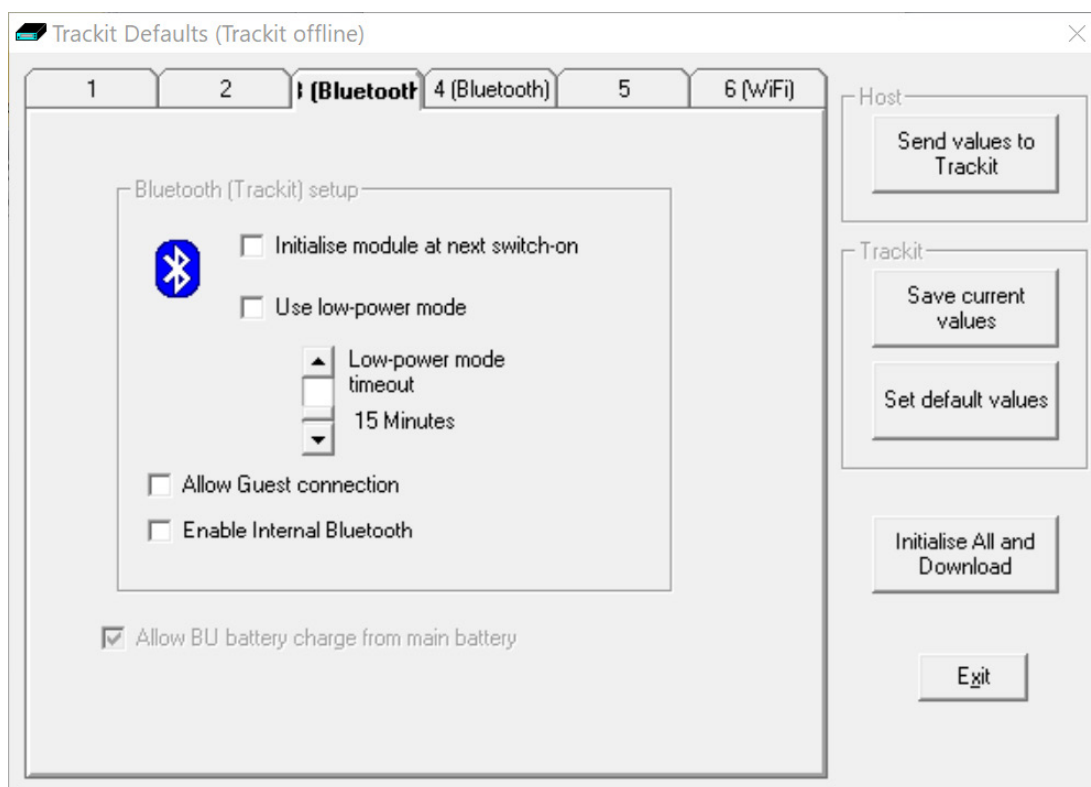

Figure 48 Defaults Tab 3 – Bluetooth
Tab 3 contains Bluetooth options and a Backup (BU) Battery charging option, as shown in Figure 48 below. Tab 4 provides additional Bluetooth setup options.